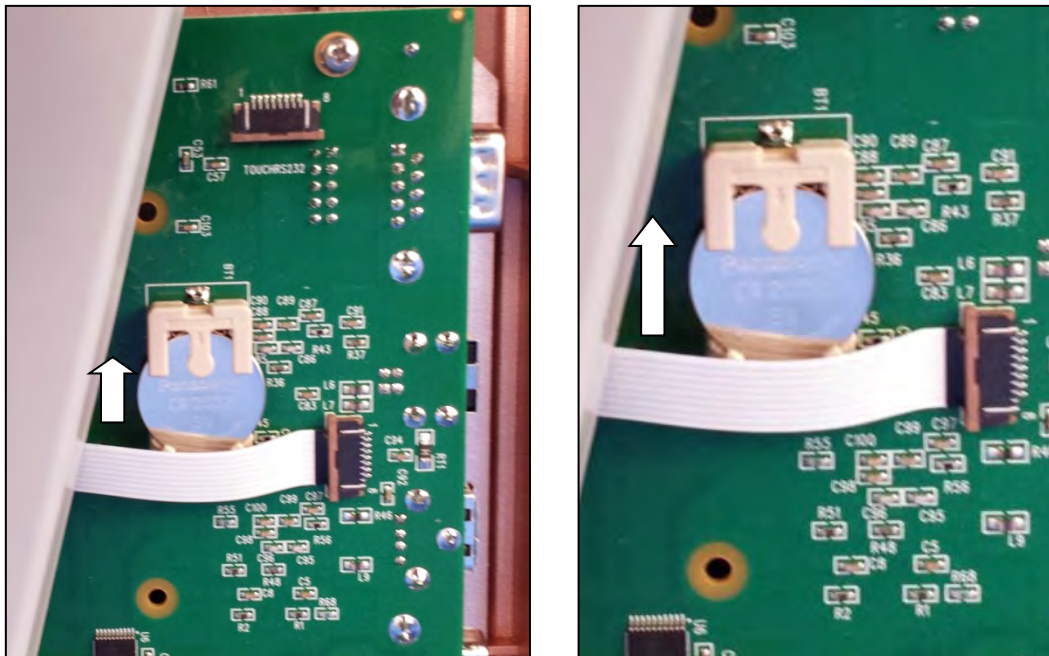

Figure 15-6
- d. Gently press the battery in the direction of the arrow (toward the end of the battery holder with the three prongs) as shown in Figure 15-6.